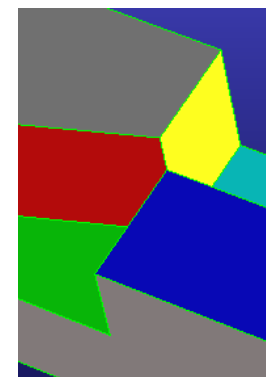

Figure 2. Non-manifold part
2. Warning: Body is a non-manifold part (Fig. 2)